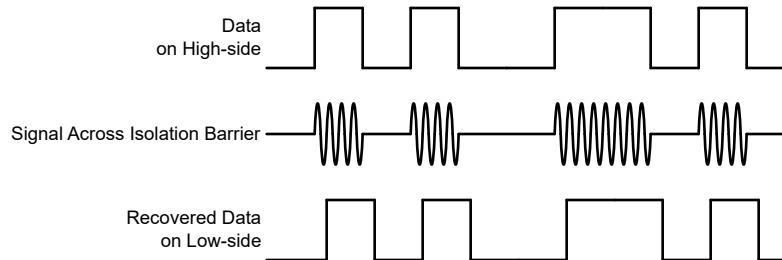

Figure 6-4. OOK-Based Modulation Scheme
The AMC23C15 uses an on-off keying (OOK) modulation scheme, as shown in Figure 6-4, to transmit the comparator output states across the SiO₂-based isolation barrier. The transmit driver (TX) shown in the Functional Block Diagram transmits an internally-generated, high-frequency carrier across the isolation barrier to represent a digital *one* and does not send a signal to represent a digital *zero*.